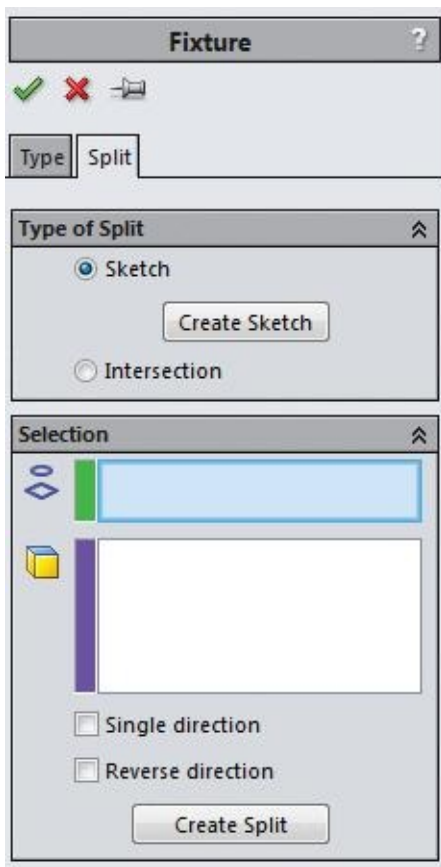

Figure-13. Fixture PropertyManager with split tab
- Click on the **Split** tab from the **Fixture PropertyManager**. The **PropertyManager** will display as shown in Figure-13.